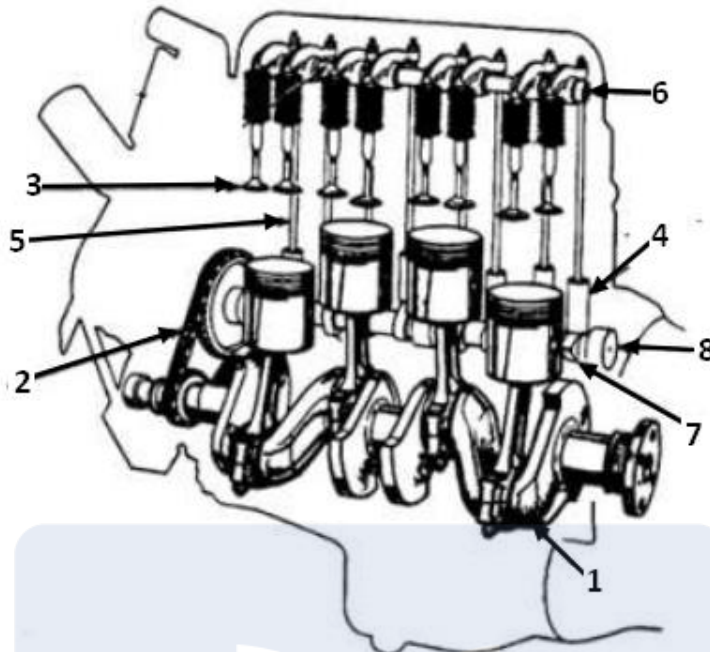

FIGURE 1: mechanical organs of an engine
1. **FIGURE 1** below represents the mechanical organs of an engine.
- List all the numbered components of figure 1. **(0.25X8=4 marks)**
- Give the name of the type of valve layout on figure 1 and explain its operating principles. **(0.5+2=2.5 marks)**